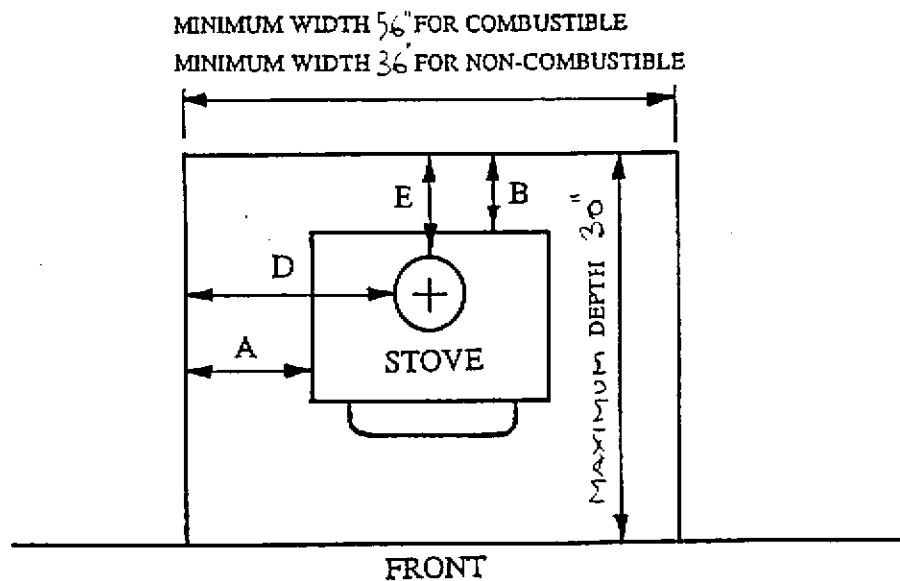

FIGURE 4.
* The ELAN-96 Freestanding Stove may be installed in a masonry non-combustible alcove which conforms to the National Building code requirements for masonry fireplaces and chimneys. To prevent overheating of the stove, air space of 2" to the rear, 6" to the sides and at least 6" to the top of the stove is required. (Fig. 4)